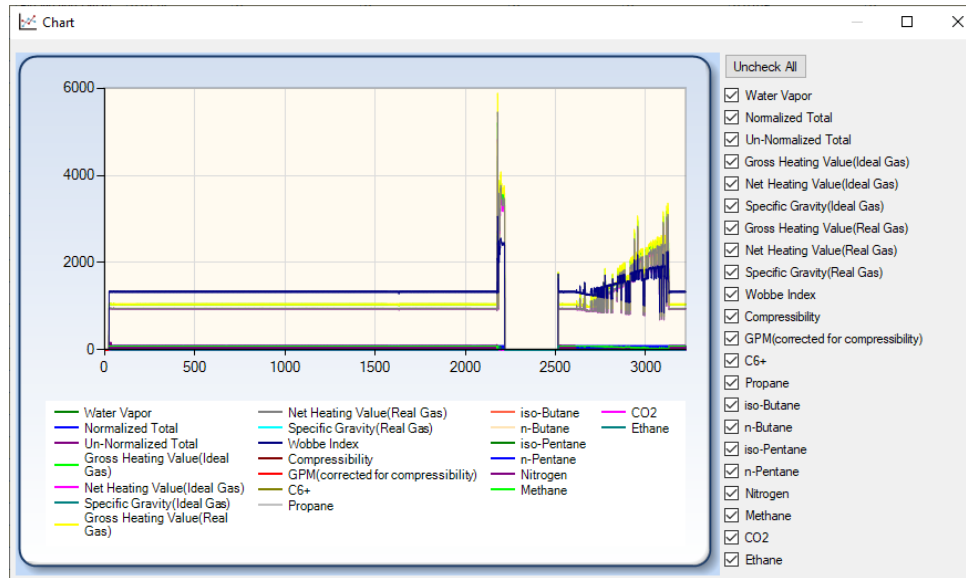

Figure 4-32: Chart generated from Archives data
- **Chart** – A chart will be generated using the archival data. See Figure 4-32.